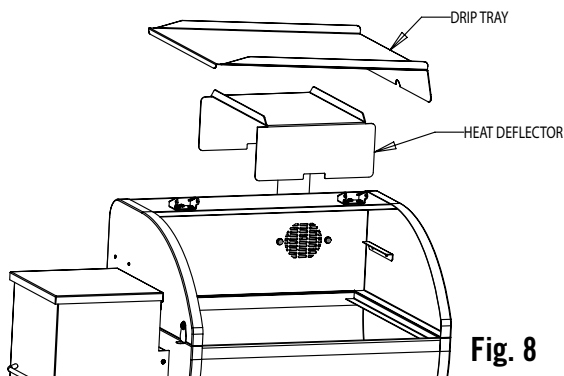
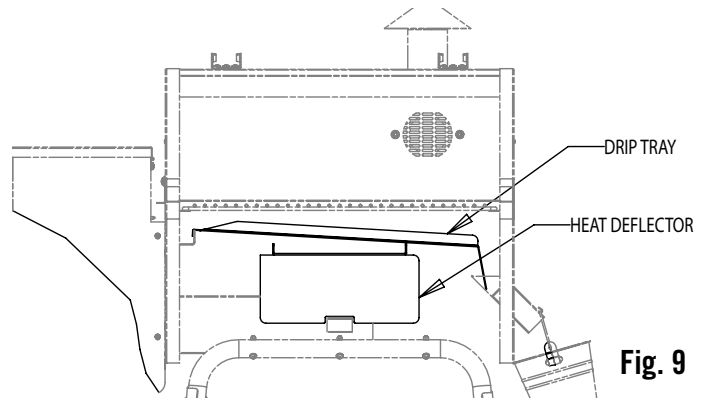

Fig. 8
Fig. 9
1. Install Ash Cup as shown in Fig 8. Never use grill without Ash Cup in place.
1. Install the Heat Deflector and Drip Tray as shown in Fig 8 and Fig 9.